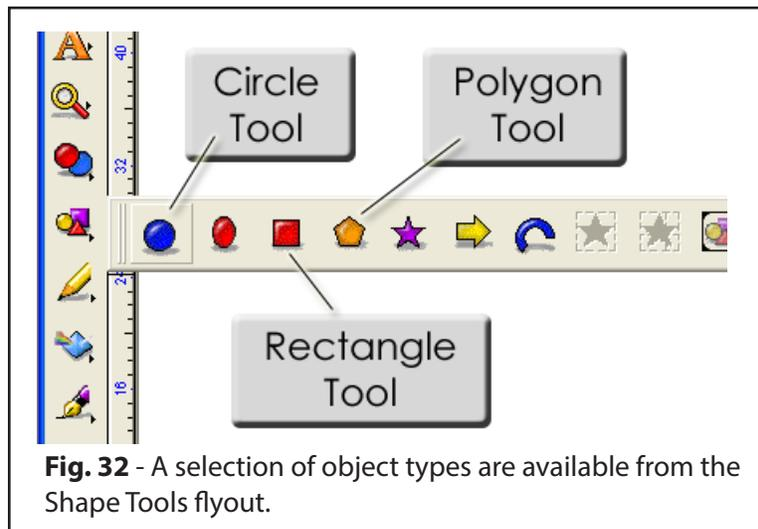

Fig. 32 - A selection of object types are available from the Shape Tools flyout.
1. From the **Shape** tools flyout (Fig. 32), choose the **Circle** tool and draw a circle on the workspace.